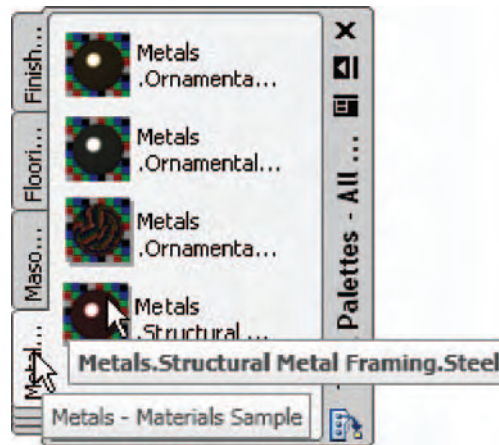

Fig. 15.33 The Metals, Structural Framing, Steel icon
1. In the **Metals – Materials Sample** palette select **Metals, Structural and Metal Framing Steel** (Fig. 15.33) to apply to the 3D model.